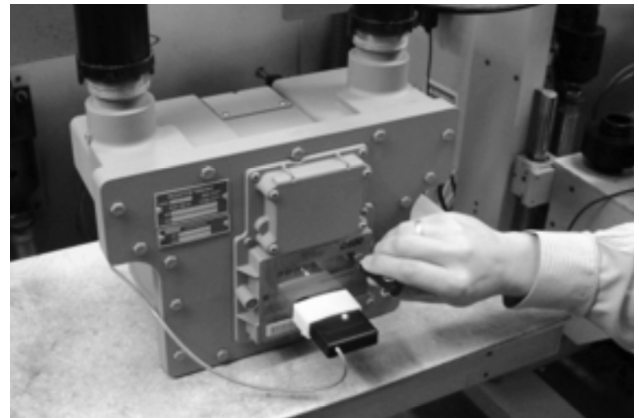

Figure 14 - Light on IrDA cable indicates connection is established
3. Place the meter into the Non-Compensated Prove mode. (Refer to Section 1.3 for information assistance.) Once the meter goes into prove mode the red light will switch from a flashing red light to a solid red light as shown in Figure 14. Now the meter test will start.